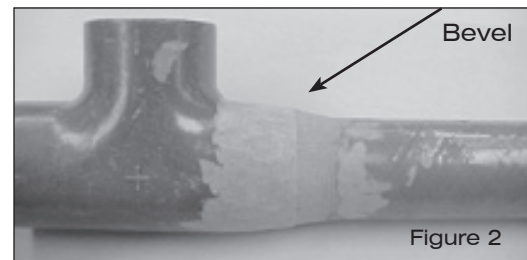

Figure 2
2. Bevel the shoulder of the bell with the grinder to blend it in with the pipe wall, i.e. there must be a smooth slope from the raised coupling, pipe bell end, or fitting to the pipe wall (see Fig. 2). In cases where it is not practical to do this much grinding, you can make a smooth transition between the two diameters by using one can of 8069 adhesive and two 8069 filler kits as a putty. This putty can be applied at the edge of the bell to form a slope which removes the step between the coupling, pipe bell end, or fitting and the pipe. The length (distance along the axis) of this putty compound should be held to a minimum, because the putty has limited pressure capabilities and is used only to ensure that the glass cloth is not laid over a sharp break in contour. Usually, 3/4" of tapered putty slope is sufficient.